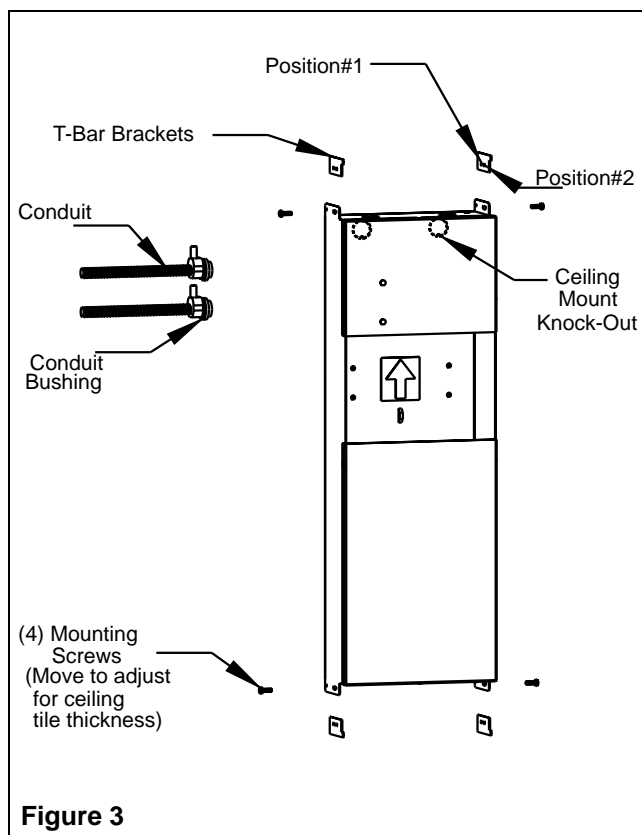

Figure 3
T-bar Ceiling Back-Box Installation (Figure 3)
1. Knock out the hole(s) on the rear of the back-box for incoming cable(s). (AC line and/or DC emergency line) (Figure 3).
2. Mount the supplied T-bar brackets on the four tabs as shown in the Figure 3. Use position #1 hole for 1" T-bar and position #2 hole for 1.5" T-bar. For each position move the bracket to adjust the slot hole(s) for 1/2" or 5/8" ceiling tile thickness to locate the back-box flush with the back face of the ceiling tile. Tighten the screw(s).